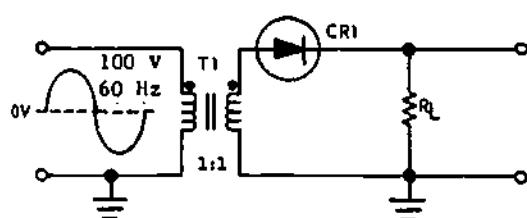
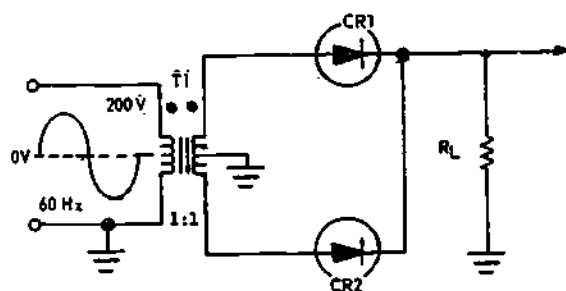
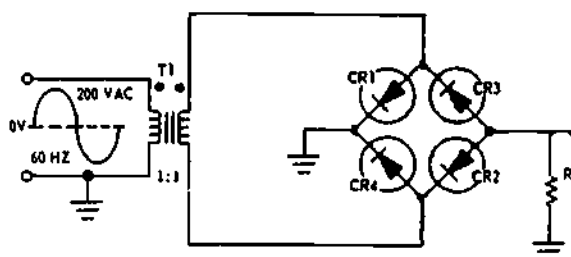
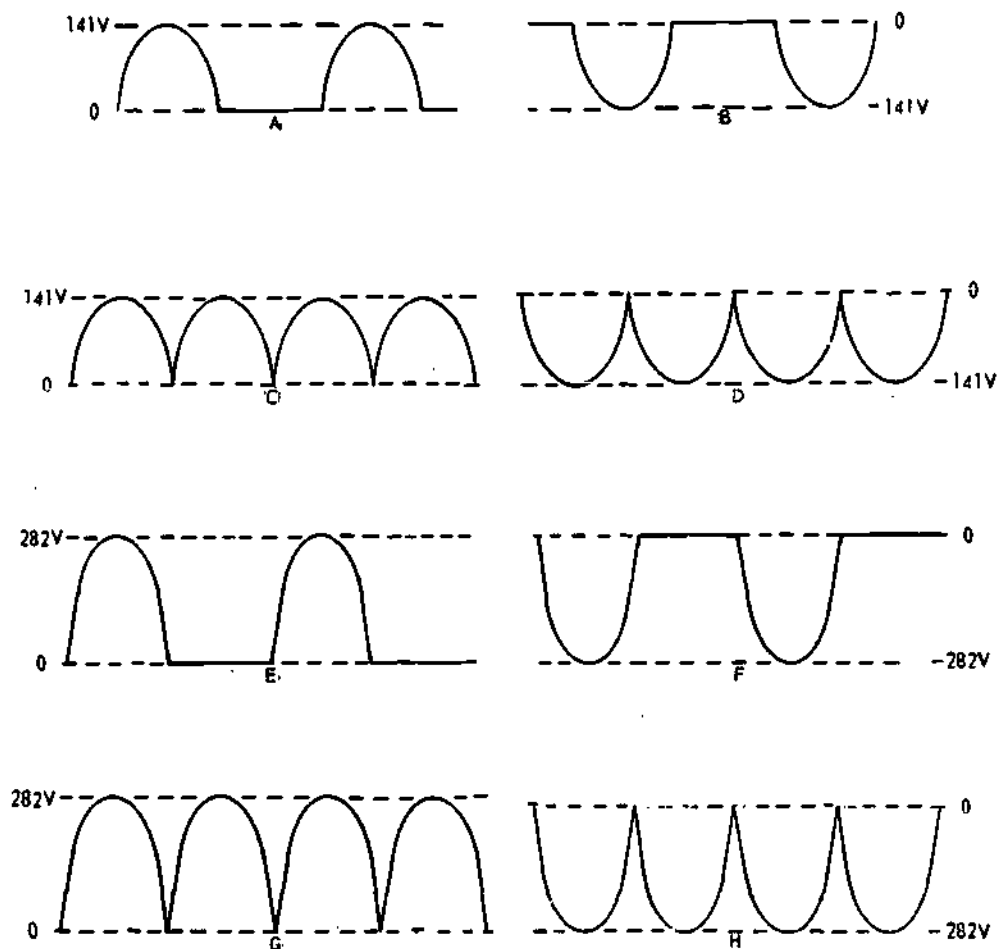

Figure 34-5. Half-Wave Rectifier
Figure 34-6. Full-Wave Rectifier
Figure 34-7. Full-Wave Bridge Rectifier
Figure 34-8. Output Waveforms
2. Calculate the peak output voltage for the circuit in figure 34-5.
4. Calculate the peak output voltage for the circuit in figure 34-6.
6. Calculate the peak output voltage for the circuit in figure 34-7.
8. Identify the direction of current flow in figure 34-5 by listing the components in proper order starting with R_L .
9. Select the correct output waveform from figure 34-8 for the half-wave rectifier shown in figure 34-5.
10. Select the statement that correctly describes an operation that occurs during the positive alternation of the input to figure 34-6.
11. Select the correct output waveform from figure 34-8 for the full-wave rectifier shown in figure 34-6.
12. From figure 34-7, select the diodes which will conduct to control the direction of current flow through R_L during the negative alternation of the input.
13. Select the correct output waveform from figure 34-8 for the full-wave bridge rectifier shown in figure 34-7.